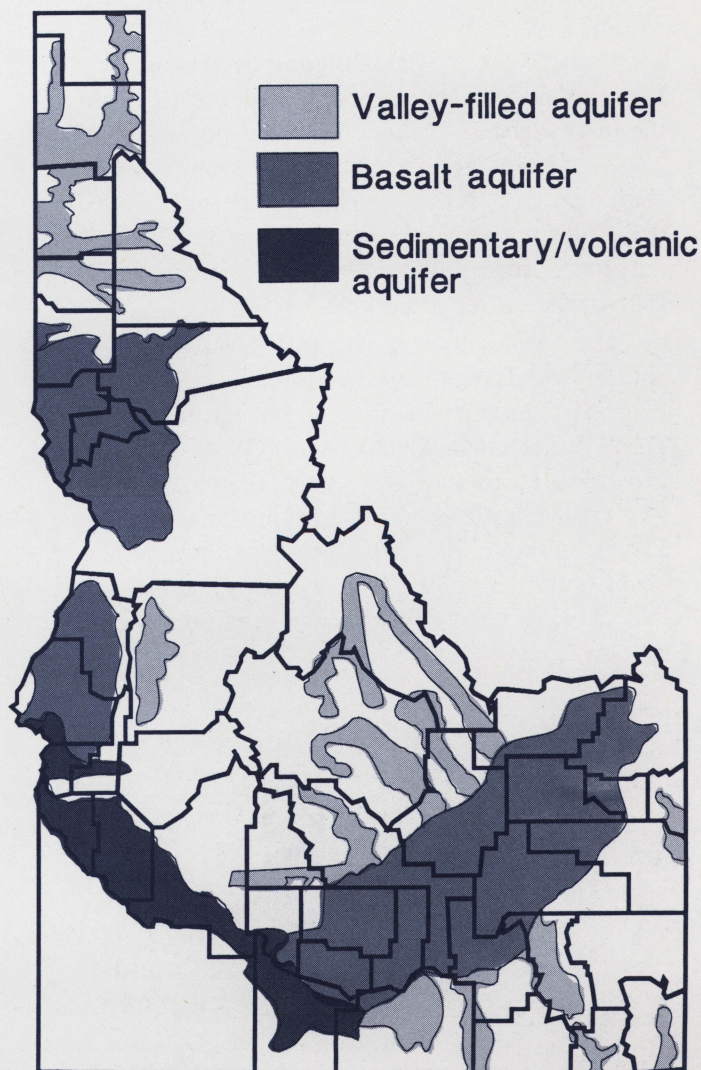

Fig. 3. Idaho's aquifers.
Idaho also has three major aquifer types: (1) valley-filled, (2) basalt and (3) sedimentary/volcanic. Valley-filled aquifers hold water in unconsolidated sedimentary material, usually in intermountain valleys. Basalt aquifers hold water in the cracks of underground basalt rock and in thin sedimentary layers interbedded with the basalt. Sedimentary/volcanic aquifers contain a mixture of unconsolidated sedimentary material, sedimentary rock (sandstone and shale) and basalt. Geothermal water is usually associated with sedimentary/volcanic aquifers (Fig. 3).